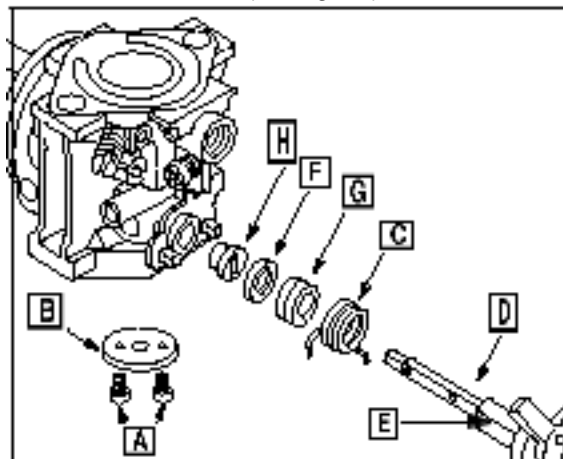

Fig. 56
Unhook choke shaft spring ([C] Fig. 56).
Remove choke shaft (D) and upper retainer (E), spring (C), washer (F), seal (G), and lower retainer ([H] Fig. 56).